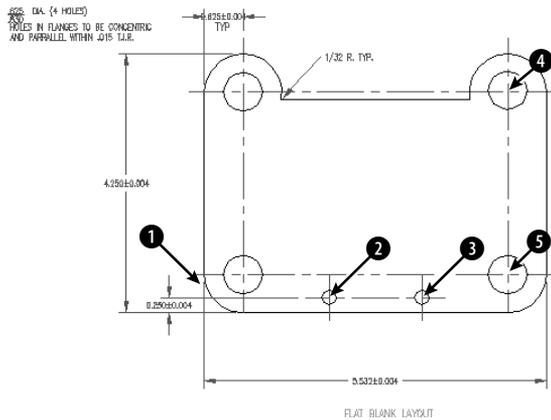

Figure 15-33: The tension arm needs some additional dimensions.
2. Save the file as ab15-05.dwg in your AutoCAD Bible folder. This is a tension arm for a commercial dryer, as shown in Figure 15-33. ORTHO and OSNAP should be on. Set running object snaps for endpoint, intersection, and center. The Dims layer is current. If the Dimension toolbar is not visible, right-click any toolbar and choose Dimension.
4. Choose Linear Dimension from the Dimension toolbar. At the Specify first extension line origin or <select object>: prompt, choose the endpoint at ① in Figure 15-33. (If necessary, press Tab until you see the endpoint tooltip.) At the Specify second extension line origin: prompt, choose the intersection at ②. At the Specify dimension line location or [Mtext/Text/Angle/Horizontal/Vertical/Rotated]: prompt, choose an appropriate location above the bottom-most dimension.
6. Choose Linear Dimension from the Dimension toolbar. At the Specify first extension line origin or <select object>: prompt, choose the intersection at ② in Figure 15-33. At the Specify second extension line origin: prompt, choose the intersection at ③. At the Specify dimension line location or [Mtext/Text/Angle/Horizontal/Vertical/Rotated]: prompt, pick the endpoint object snap at the right side of the previous dimension's dimension line in order to align the two dimensions.
10. Choose Linear Dimension from the Dimension toolbar. At the Specify first extension line origin or <select object>: prompt, choose the intersection at ④ in Figure 15-33. At the Specify second extension line origin: prompt, choose the intersection at ⑤. At the Specify dimension line location or [Mtext/Text/Angle/Horizontal/Vertical/Rotated]: prompt, pick an appropriate location to the right of the model.